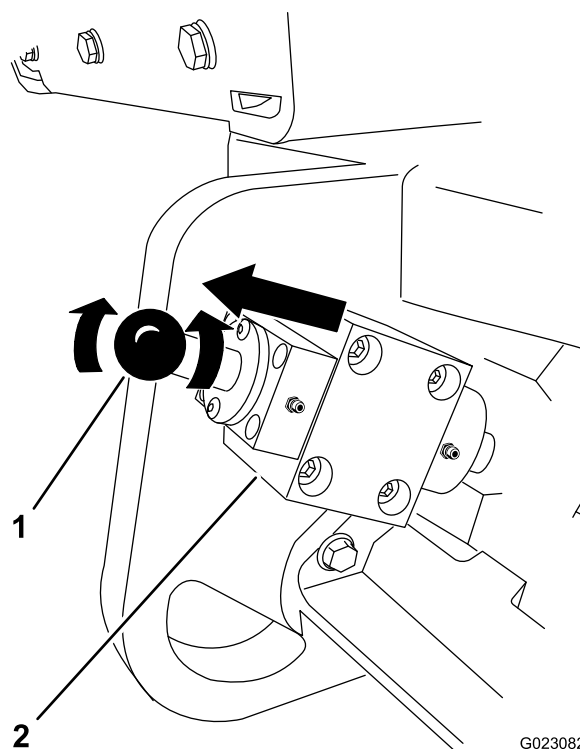

Figure 29
5. Pull the brake knob of the parking brake out slightly and rotate the knob approximately 90° clockwise or until the plunger is released (Figure 29).
- Pull the parking brake handle out fully and rotate the handle approximately 90° clockwise or until it snaps into the up-lock position (Figure 29).